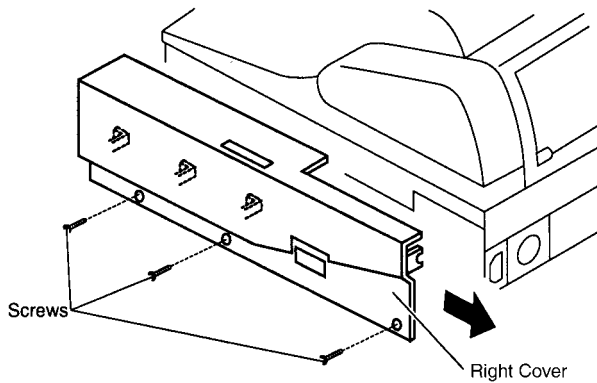

Fig. 4-6
- 3) Slide the Right Cover backward as shown in Fig. 4-6.